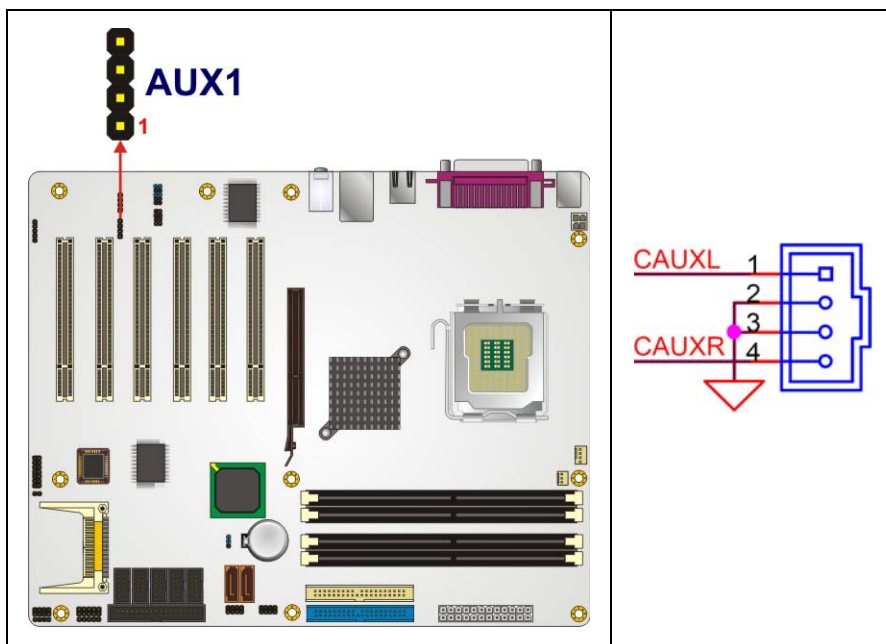

Figure 4-6: Auxiliary Audio Connector Location (4-pin)
- CN Location:** See **Figure 4-6**